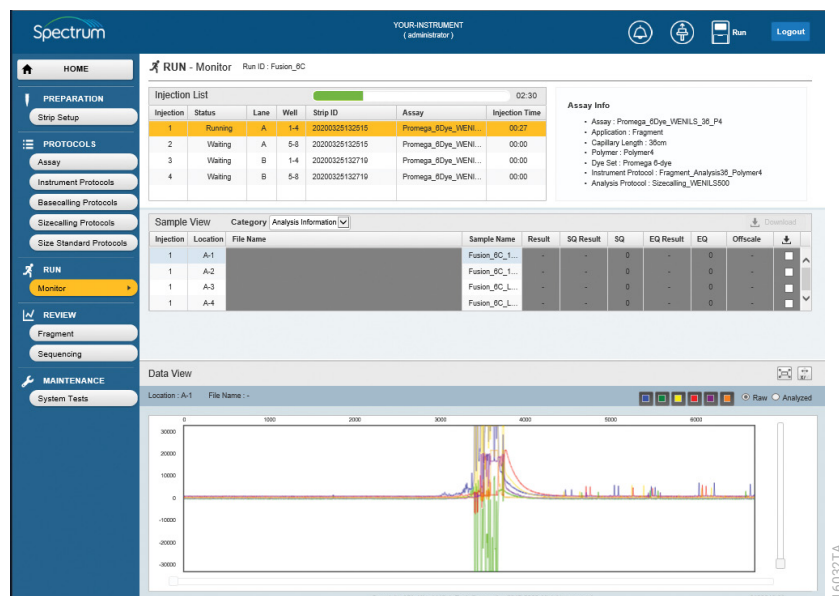

Figure 84. 'RUN-Monitor' screen with current injection and sample selected.
1. To the right of the Injection List is the 'Assay Info' window. This displays the assay information for the injection selected in the Injection List. Since no injection is selected in Figure 83, there is no assay information displayed in the 'Assay Info' window. See Figure 84 for assay information in the 'Assay Info' window once an injection from the Injection List is selected.
1. Select the injection that is currently running (highlighted in orange) from the Injection List (Figure 84).
2. This displays the list of samples in that injection in the Sample View section of the 'RUN-Monitor' screen. Select a specific sample to view the raw data as it is collected in real time (Figure 84).
Note: When either **Analysis Information** or **Run Information** is selected in the **Category** pull-down menu in the 'Sample View' screen, data are only viewable in all columns for completed injections. For injections in the process of running, the File Name column is blank in the Analysis Information or Run Information categories and the Results columns are blank in the Analysis Information category (Figure 84).